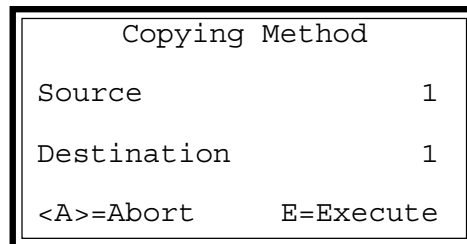

Figure 6-26 Copying Method Screen
2. Press the E key to display the Copying Method screen (Figure 6-26), with the cursor at the end of the second line.